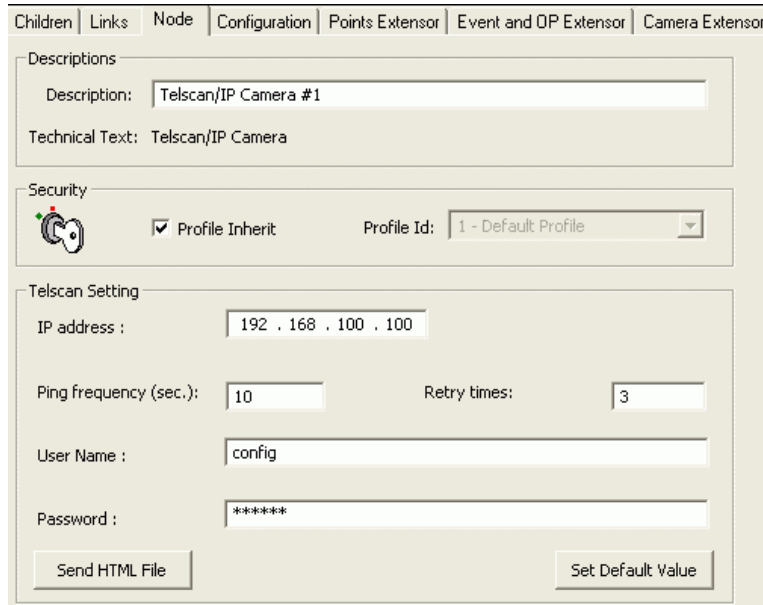

Fig 10 TELSCAN settings
2. In the **Telscan Setting** section, enter the following fields (Fig 10):